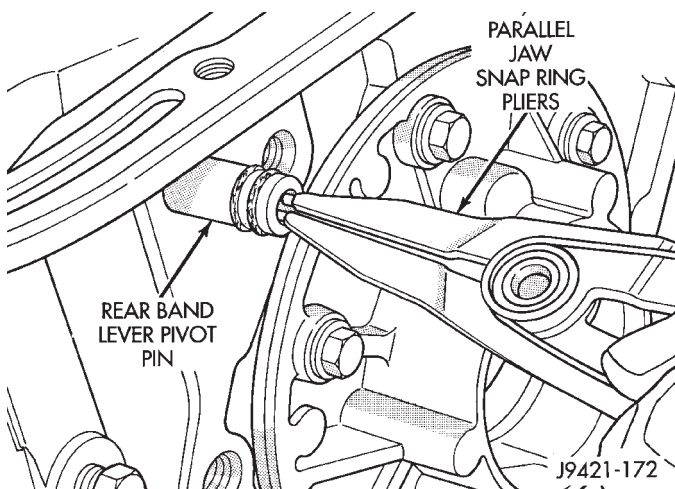

Fig. 90 Rear Band Servo Lever Pin
(d) Using snap-ring plier, pull rear band lever pivot from transmission case (Fig. 90).
- (a) Assemble link bar to band. Notched side of link toward band (Fig. 90).